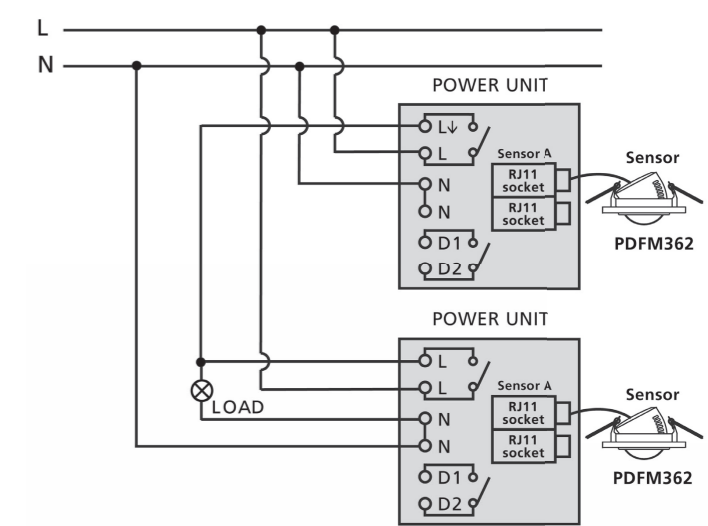

Fig. 4
3.2.2 One load is controlled by two sensors (see Fig.4).